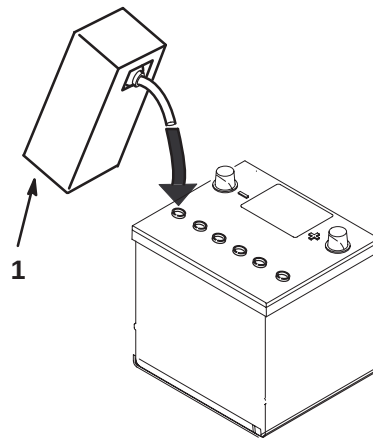

Figure 13
4. Allow approximately 20 to 30 minutes for the electrolyte to soak into the plates. Refill as necessary to bring the electrolyte to within about 1/4 inch (6 mm) of the bottom of the fill well (Fig. 13).